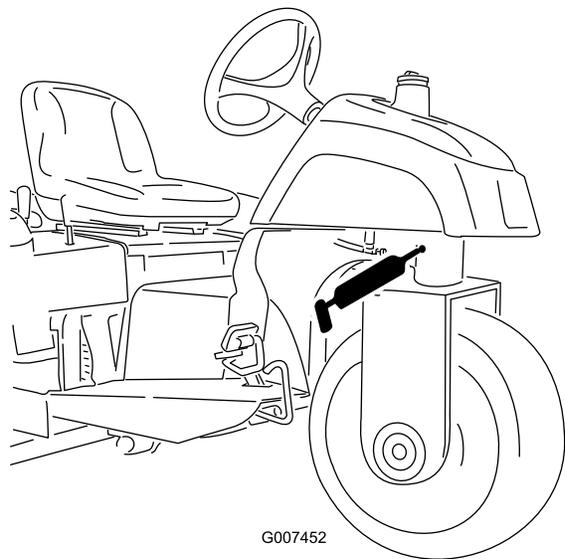

Figure 26
- Steering pivot (Figure 26)
Note: The flush fitting on the steering pivot (Figure 26) requires a grease gun nozzle adapter. Order Toro Part No. 107-1998 from your Authorized Toro Distributor.